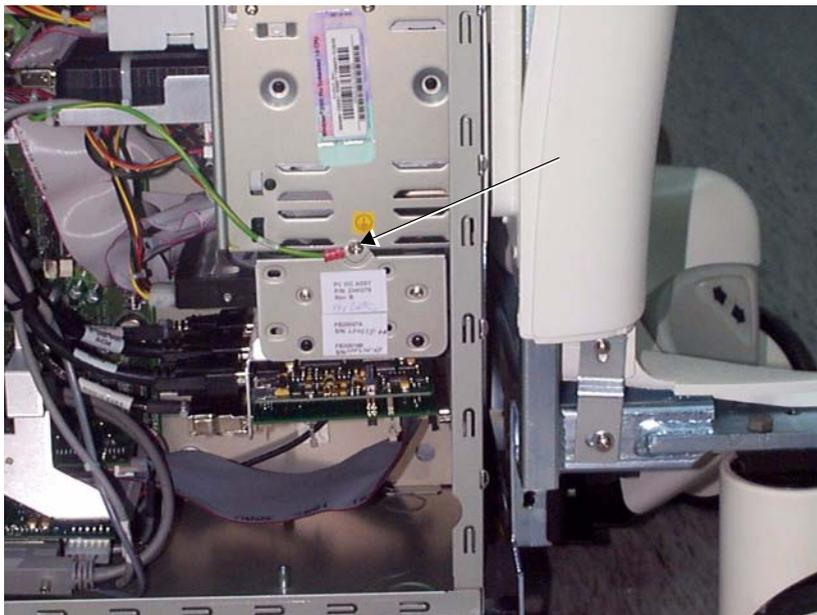

Figure 8-56 PC-VIC
- 3.) Remove the screw that holds the Ground cable and PC-VIC in position (as shown in Figure 8-56 below).
- 5.) Return and tighten the screw that holds the PC-VIC in position (as shown in Figure 8-56 on page 8-73).